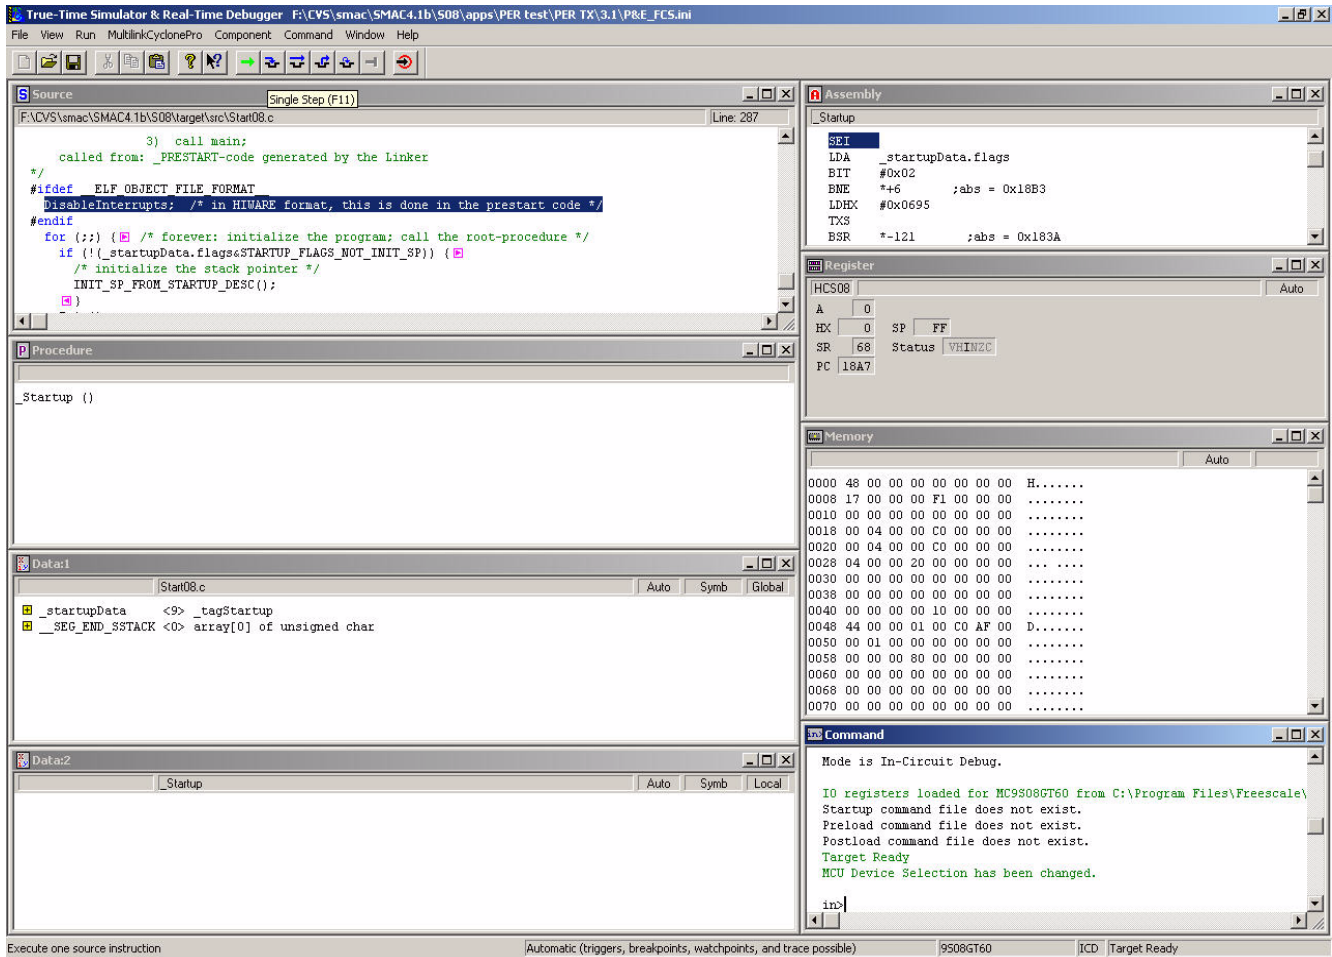

Figure 15. HiWave Debugger Main Window
7. After the flash memory is programmed, the Default/Main debugger window appears as shown in Figure 15.